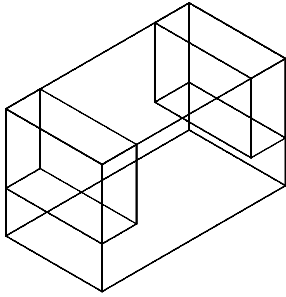

Figure 26-52 Boxes moved inside the bigger box using midpoints
8. Move the new box inside the old box using the midpoints of both the boxes. Copy the new box to the other side of the box, refer to Figure 26-52.